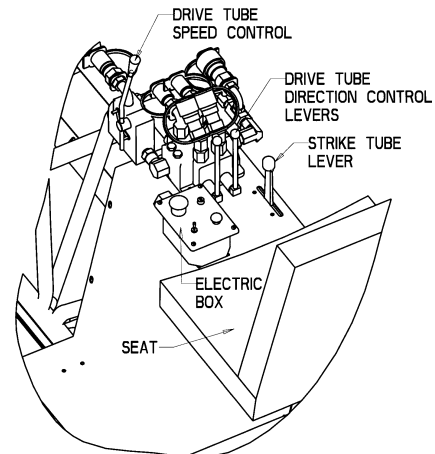

Figure 13. Operator Controls
3. Drive Tube Speed Control Lever (Figure 13).
4. Drive Tube Direction Control Levers (Figure 13).
5. Strike Tube Control Lever (Figure 13)